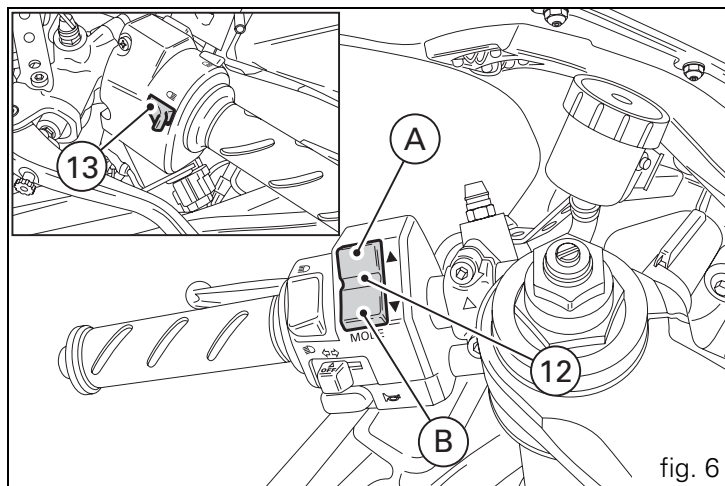

fig. 6
12) **2-position switch A and B** (fig. 6).
13) **High beam headlight flasher switch** (fig. 6).